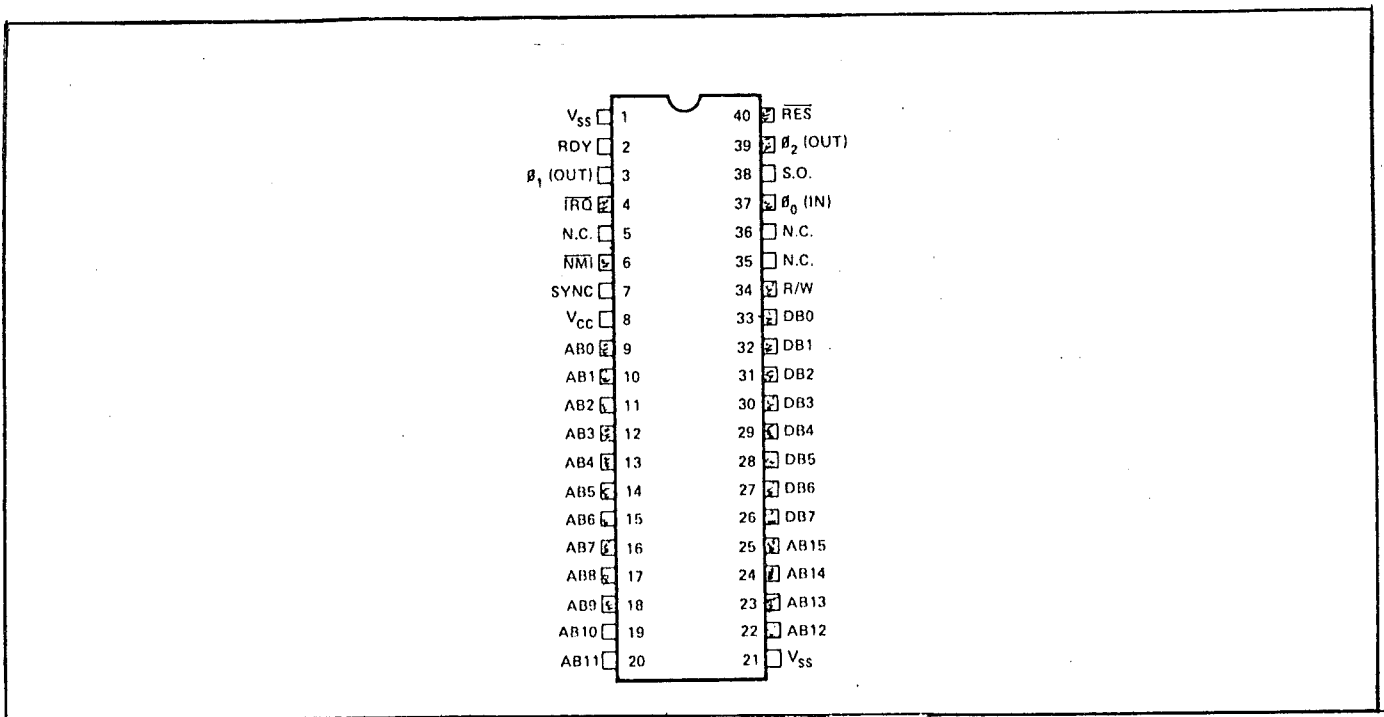

FIGURE 5-19 SY6502 – 40 PIN PACKAGE
3. Connect Signature Analyzer (S.A.) leads to the following locations. (Refer to Figure 5-19).